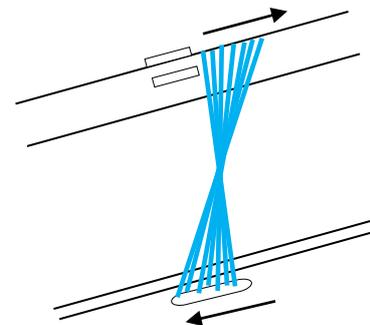

Figure 13: Successive Turns in Gammoning
- each successive turn lays forward on the bowsprit and aft in the stem (Fig. 13) and this is what gives the gammoning its unique twisting shape. The gammoning heaving should be taut (without being excessive) during this process.